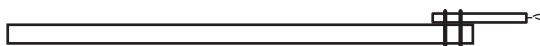

Figure 2. Igniting stick
3. Prepare an igniting stick as shown in Figure 2. Attach a candle to the end of a long stick such as a meter stick, wood pointer, or dowel rod. Attach the candle to the stick using tape or rubber bands.